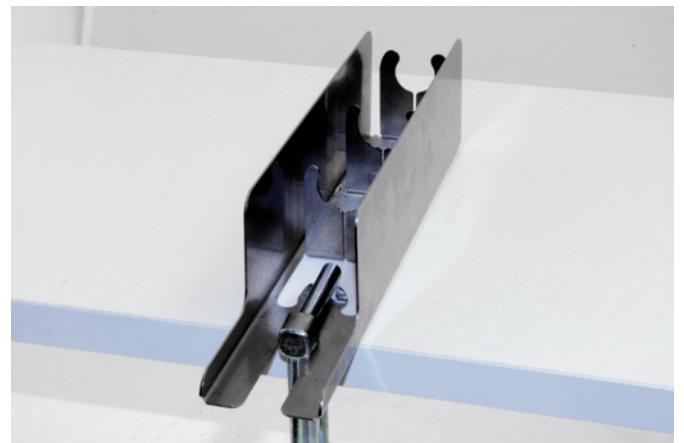

Fig. 3
- 3 Bolt the securing holding device for the soldering iron TC to the table, work bench or similar (Fig. 3).